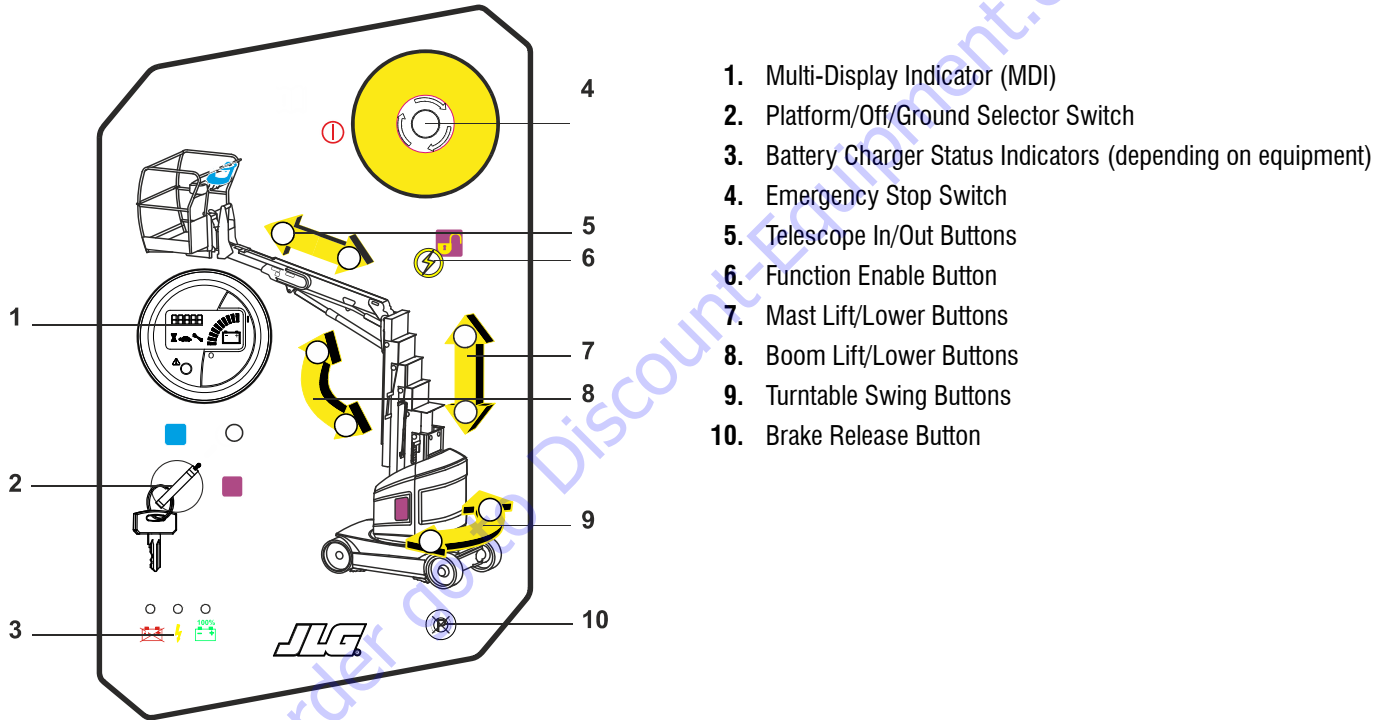

Figure 3-4. Ground Control Station
1. Push and hold the boom lift membrane switch at the ground control station. (Refer to section 3, Figure 3-4.)